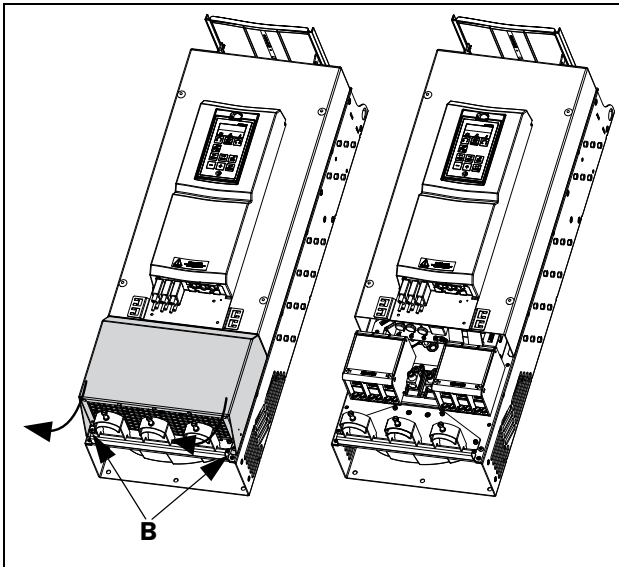

Fig. 30 Loosen the two screws and remove the lower cover (principle drawing)
- Loosen the two screws B (see Fig. 30).